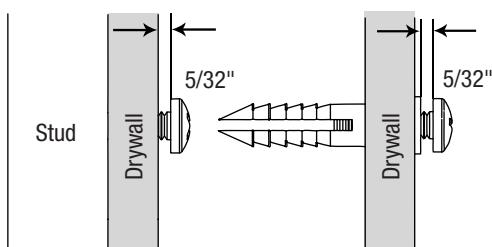

Figure 2
STEP 2: Pre-drill pilot holes with a 3/32" drill bit in the marked locations. If a stud is present, insert and fasten the screw leaving a 5/32" gap. If no stud is present, use a 3/16" drill bit to bore out the 3/32" hole. Insert the anchor and fasten the screw into the anchor leaving a 5/32" gap, as shown in **Figure 2**.